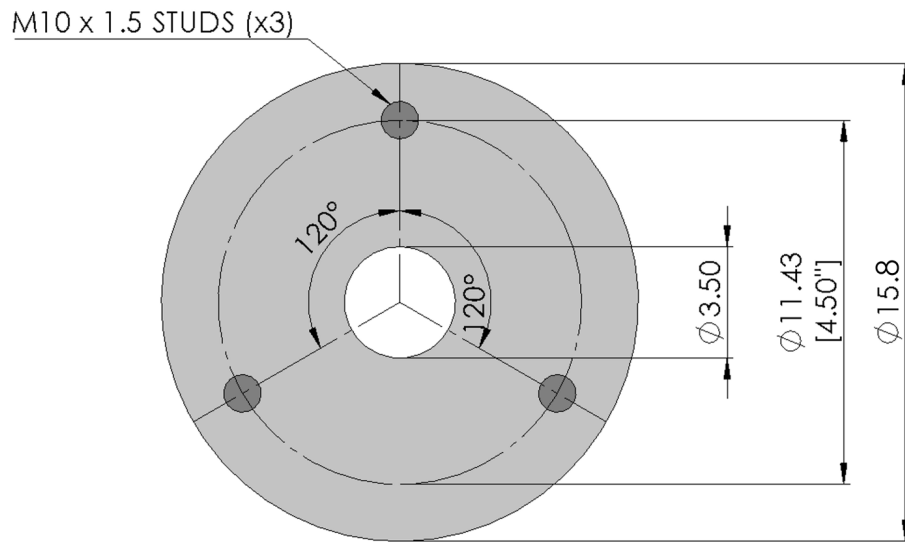

Figure 3. Base flange dimensions for wind turbine attachment to the tunnel and cable pass-through (dimensions in centimeters).
- It is suggested that the electrical cable between the wind turbine and electrical components outside the tunnel (e.g., point of common coupling [PCC], load) be unbroken (without connectors) inside the tunnel. Any connections on this cable should be outside the tunnel, for example, at the turbine controller or load box, or at the PCC. Cables must pass through the hole in the center of the mounting flange, as shown in Figure 3, on their way to the PCC and the team-supplied electrical enclosures.
- The tunnel used in each region will have a base flange with mounting studs (see Figure 3).
- The turbine base flange must be constructed of material no thicker than 16.1 mm. It should be designed and constructed with adequate tolerances to smoothly fit over three studs, where it will be secured to the tunnel base flange/float with wingnuts. Figure 3 shows the bolt pattern and sizing of this flange and the dimension for the hole in this base flange to allow cables and connectors to pass through.